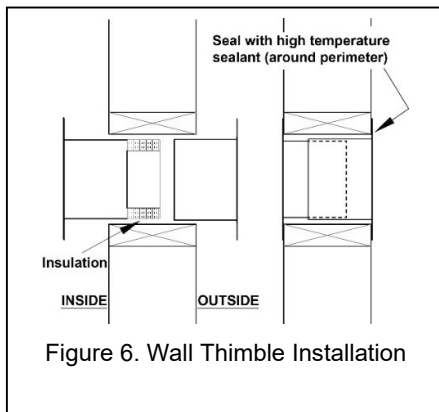

Figure 6. Wall Thimble Installation
9. If using a Wall Thimble, install the interior and exterior portions of the Wall Thimble (WT, WTI) and screw (or nail) them to the framed opening. If using the Insulated Wall Thimble (WT), the insulated portion goes inside the house (see Figure 6). Install the included Firestop Plates (FSP) around the vent length and screw it in using the included self-tapping screws.
12. Pass the final Length (L) through the Wall Thimble (WT, WTI).
- a. Ensure there is no joint between two vent Lengths (L) located inside the Wall Thimble (WT, WTI) because the Locking Band (LB) will not fit inside the Wall Thimble (WT, WTI) tubing.
13. From the outside, fasten the Horizontal Termination (HT) to the final vent Length (L) using the provided Locking Band (LB).
14. From inside, move the gas appliance into its final position, ensuring the vent Length (L) fully engages with the appliance outlet collar.
- On a horizontal installation, the Wall Thimble (WT, WTI) includes Firestop Plates (FSP) included (Figure 6). They are installed around the vent and screwed into the Wall Thimble (WT, WTI).
- On vertical installations, the Firestop Ceiling Support (FS) has the Firestop Plates (FSP) included and are screwed into the bottom plate of the Firestop Ceiling Support (FS). If a Base Support (BS) or other support is used, the Firestop Plates (FSP) are screwed directly into the roof joist.